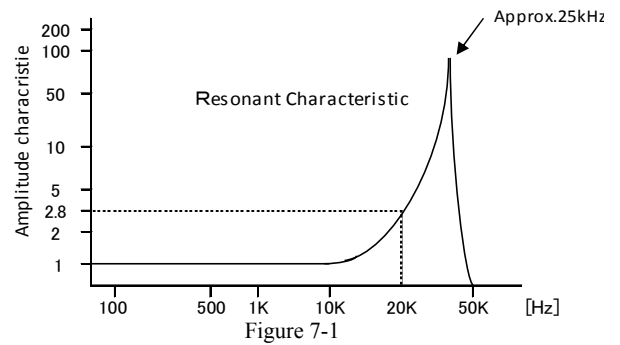

Figure 7-1
- ① Expect the frequency components of the target vibration.
- ② Check the amplitude characteristic based on the figure 7-1.
- ③ Calculate the acceleration and make sure the acceleration is within the rated capacity. Especially before using a low-pass filter, make sure signal outputs are within the pre-set range and within the rated capacity.
Suppose the maximum amplitude of the object to be measured is 3000m/s². Based on the figure 7-1, the amplitude characteristic is approx. 2.8 at 20 kHz. Since the maximum acceleration is 3000m/s², the ASM-A-2KV/H-ID receives the acceleration (3000×2.8=8400m/s²) due to the resonance. You are able to use the ASM-A-2KV/H-ID since the acceleration is within the rated capacity.